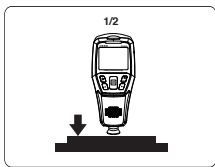

Figure 3
1. When Figure 3 appears on the screen, place a standard coating thickness film with known thickness (e.g.: 500 μm) on top of an uncoated substrate.